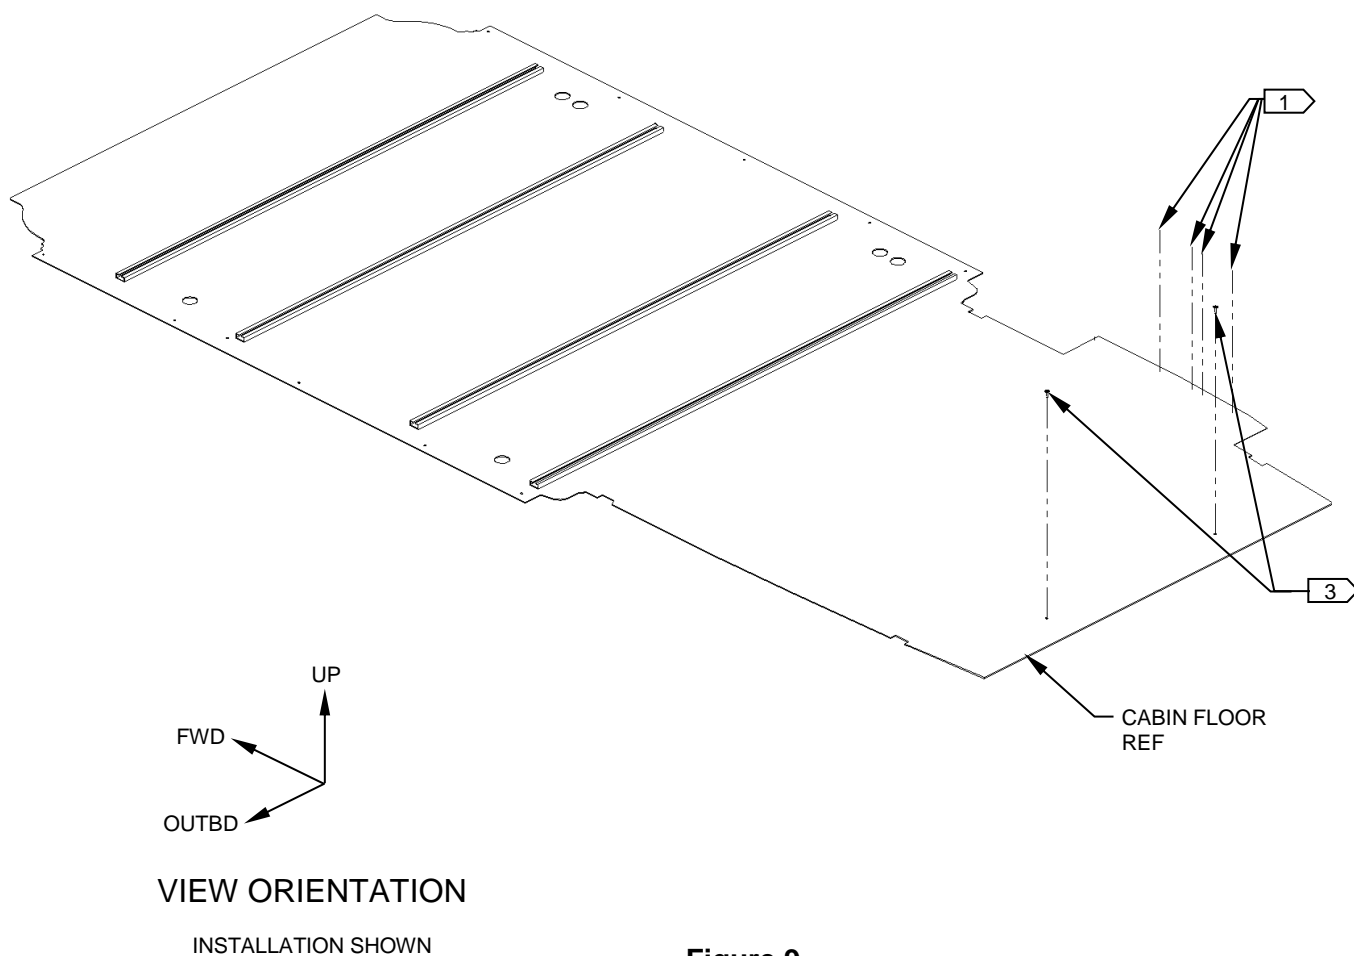

Figure 9
2. Remove and discard the two most OUTBD fasteners common to the access panels near the AFT end of the cargo area. Remove and retain fasteners along cargo door sill. Reference Figure 9.
6. Install the provided fasteners (Item 12) as shown. Reference Figures 9 & 12